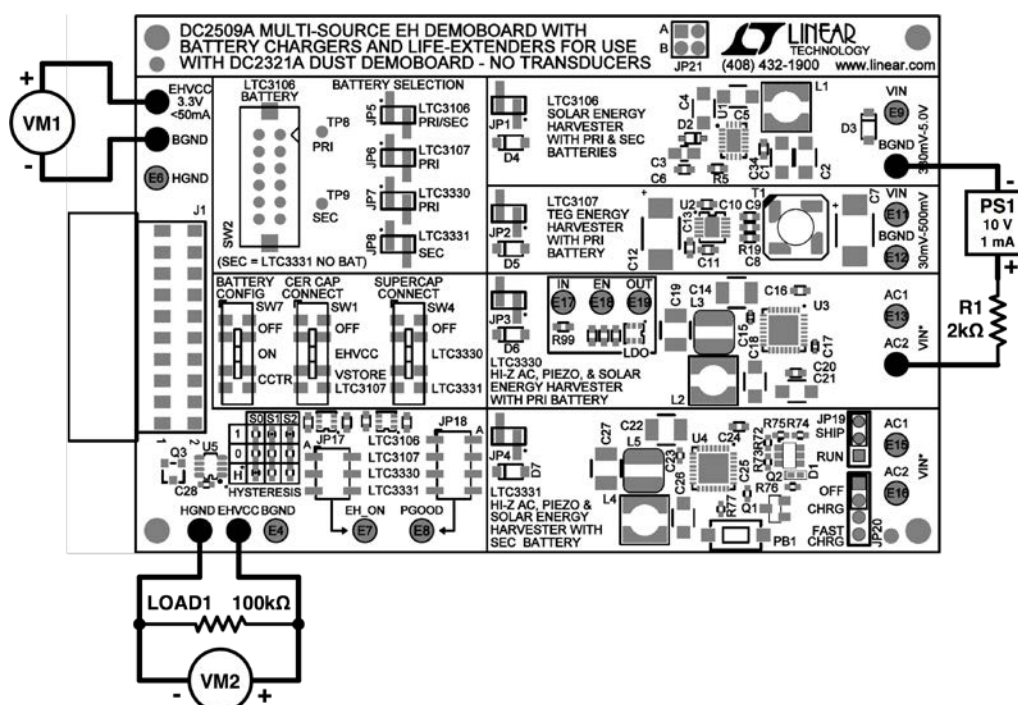

Figure 5. Setup for DC2509A Test Procedure with LTC3330
- 2) This configuration ensures that the output of the LTC3330 is routed to EHVCC. As shown in Figure 5, connect VM1 to measure the EHVCC output voltage and connect PS1 and R1 to simulate a solar power source.
- 4) Connect VM2 and LOAD1 as shown in Figure 5. Put PS1 into standby mode and observe the voltage on VM1 and VM2 begin to drop. As the voltage on VM1 drops past 2.25V, observe as the voltage on VM2 quickly falls to 0V.
- 1) Reconfigure the board according to Figure 5, but do not connect PS1 or R1.